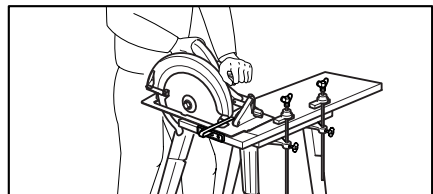

Fig. 4
**WARNING:** It is important to support the workpiece properly and to hold the saw firmly to prevent loss of control which could cause personal injury. Fig. 4 illustrates typical hand support of the saw.